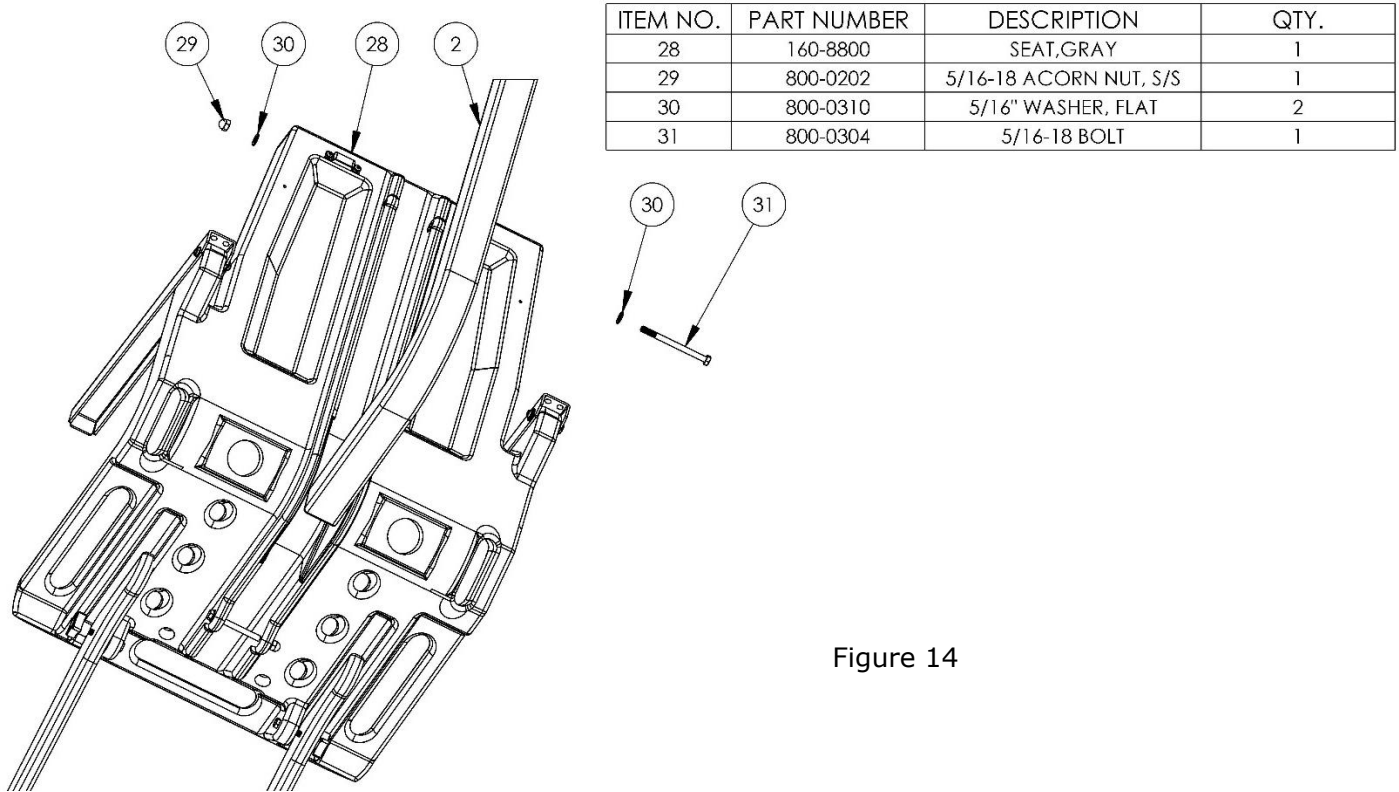

Figure 14
20. Locate Seat Assembly and attach to Seat Frame using bolt (2) Washers, and. (1) Acorn Nut Tighten using (2) ½" Box Wrenches. See Figure 14.